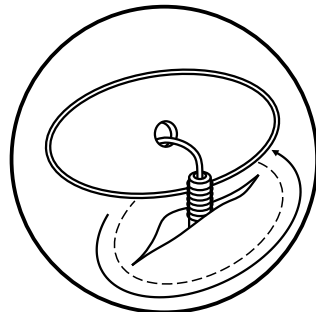

Fig 16 - Twist lower half to align with tear/split
4. Twist the lower half as you place it into the split (Fig16).